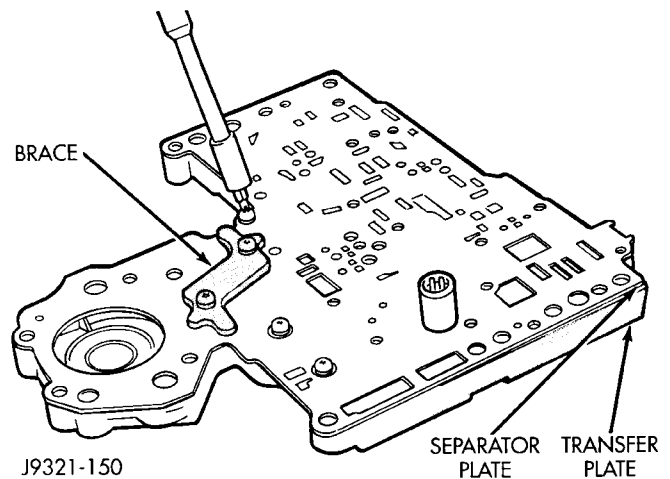

Fig. 78 Brace Plate
- (3) Align and position upper housing separator plate on transfer plate (Fig. 78).
- (4) Install brace plate (Fig. 78). Tighten brace attaching screws to 4 N·m (35 in. lbs.) torque.
- (5) Install remaining separator plate attaching screws. Tighten screws to 4 N·m (35 in. lbs.) torque.